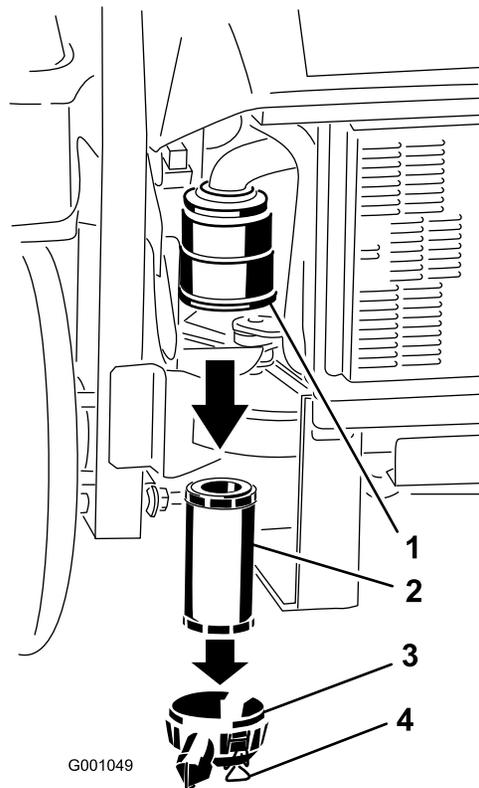

Figure 36
3. Release the latches on the air cleaner and pull the air cleaner cover off of the air cleaner body (Figure 36).
5. Gently slide the filter out of the air cleaner body (Figure 36). Avoid knocking the filter into the side of the body.